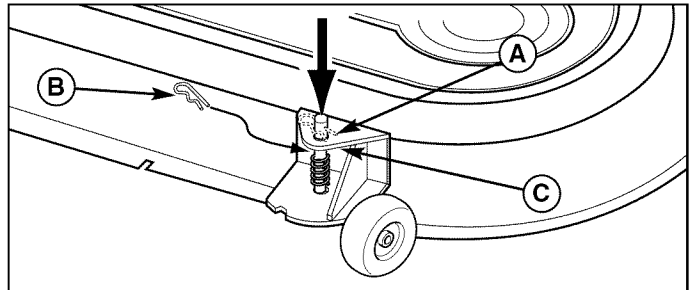

Figure 50. Gauge Wheel Adjustment
1. Remove the hair pin clip (A, B, Figure 50).
2. For upper position, install the pin (A) through the spindle above the bracket (C). For the lower position, push down on the top of the spindle, and install the hair pin clip (B) below the top of the bracket (C).